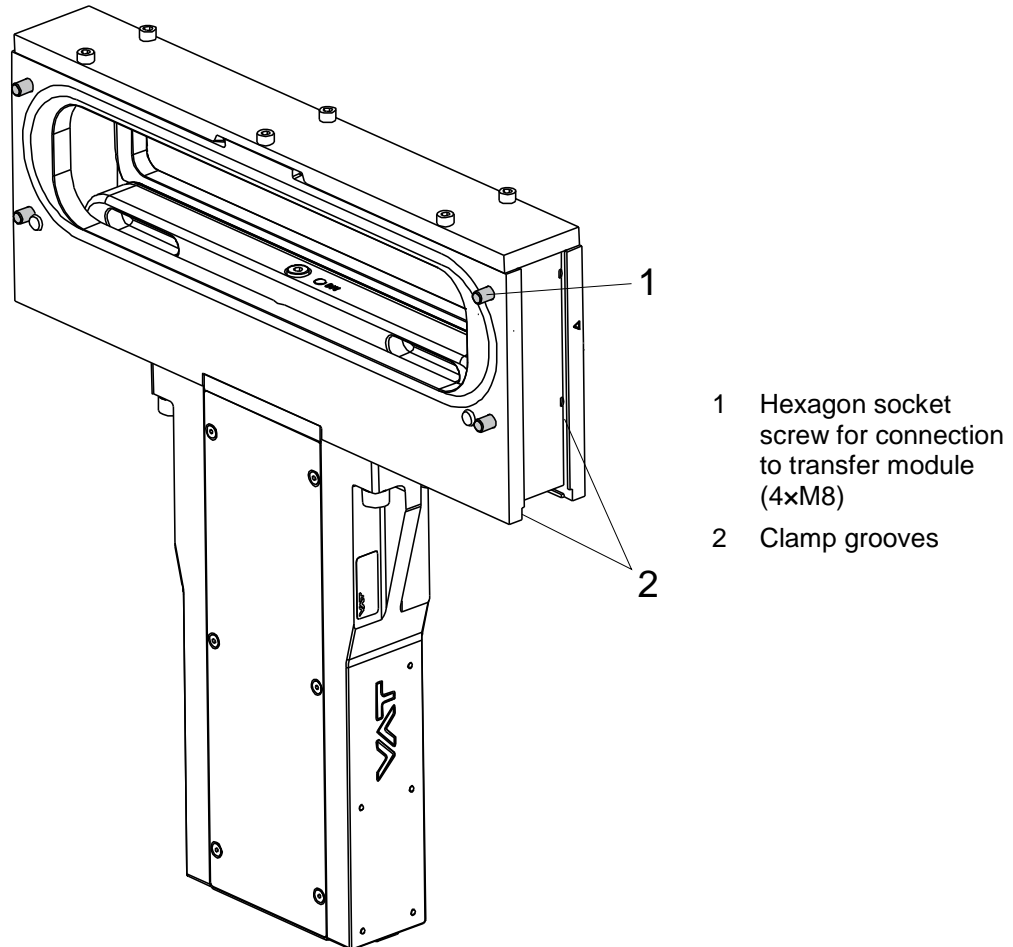

Figure 4-1
3. Use the hexagon socket screw for connection to transfer module; see «Figure 4-1» on page 12.
5. Install the valve to the process module; use clamp groove (2) at the outside of body; see «Figure 4-1».